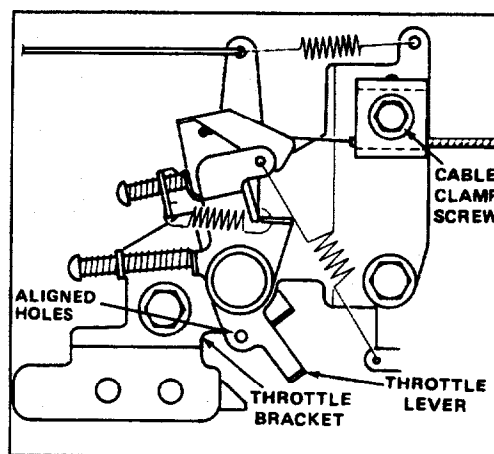

Figure 19
3. Loosen cable clamp screw until throttle cable slides (Fig. 19). Align holes in throttle lever and throttle bracket. Tighten cable clamp screw to lock adjustment in place.